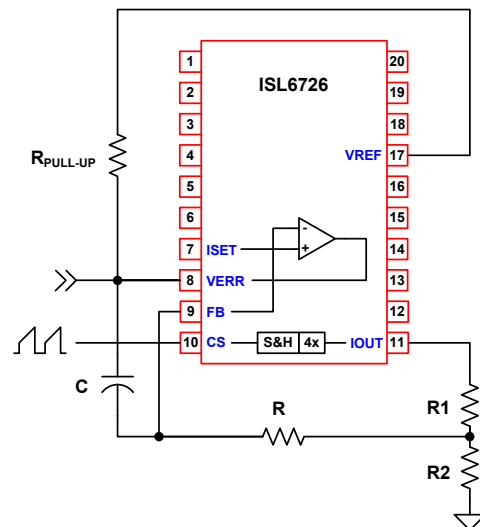

FIGURE 13. AVERAGE CURRENT CONFIGURATION
IOUT may be used with the available error amplifier (EA) of the ISL6726 as shown in Figure 13. The error amplifier is typically configured as an integrator. As shown in Figure 13, IOUT is attenuated by resistors  $R_1$  and  $R_2$  so that the average current limit threshold can be set independently of the peak current limit threshold. The integrator bandwidth is determined by  $R$  and  $C$ . The current error amplifier is similar to the voltage EA found in most PWM controllers, except it cannot source current. VERR requires an external pull-up resistor.